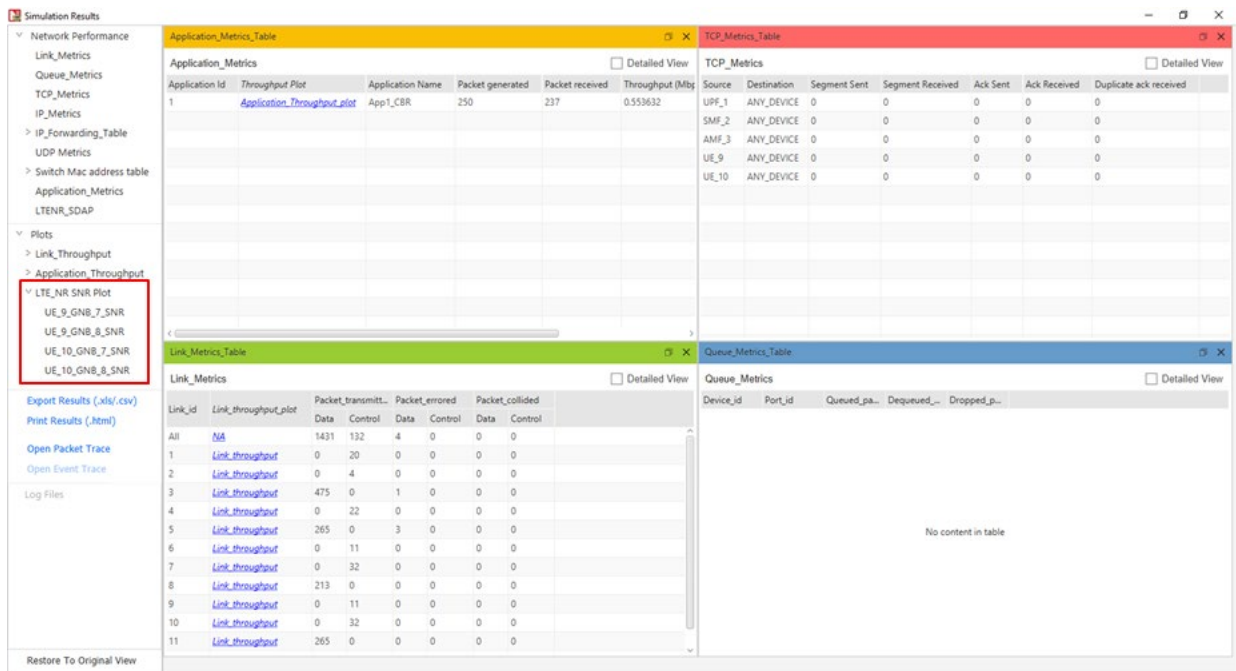

Figure 10-63: LTE_NR SNR Plots in Result Window
Step 7: Now on running any simulation in LTE/5G NR networks, you will get individual SNR plots for each UE-GNB/UE-ENB pair, in the NetSim Metrics window under Plots ->LTE_NR SNR Plot shown below Figure 10-63.